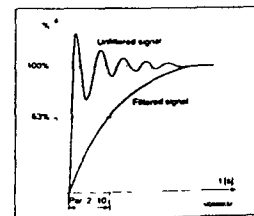

Figure 5.5-5  $V_m$  signal filtering
- Filters out disturbances from the incoming analog  $V_m$  signal. A long filtering time makes drive response slower. See figure 5.5-5